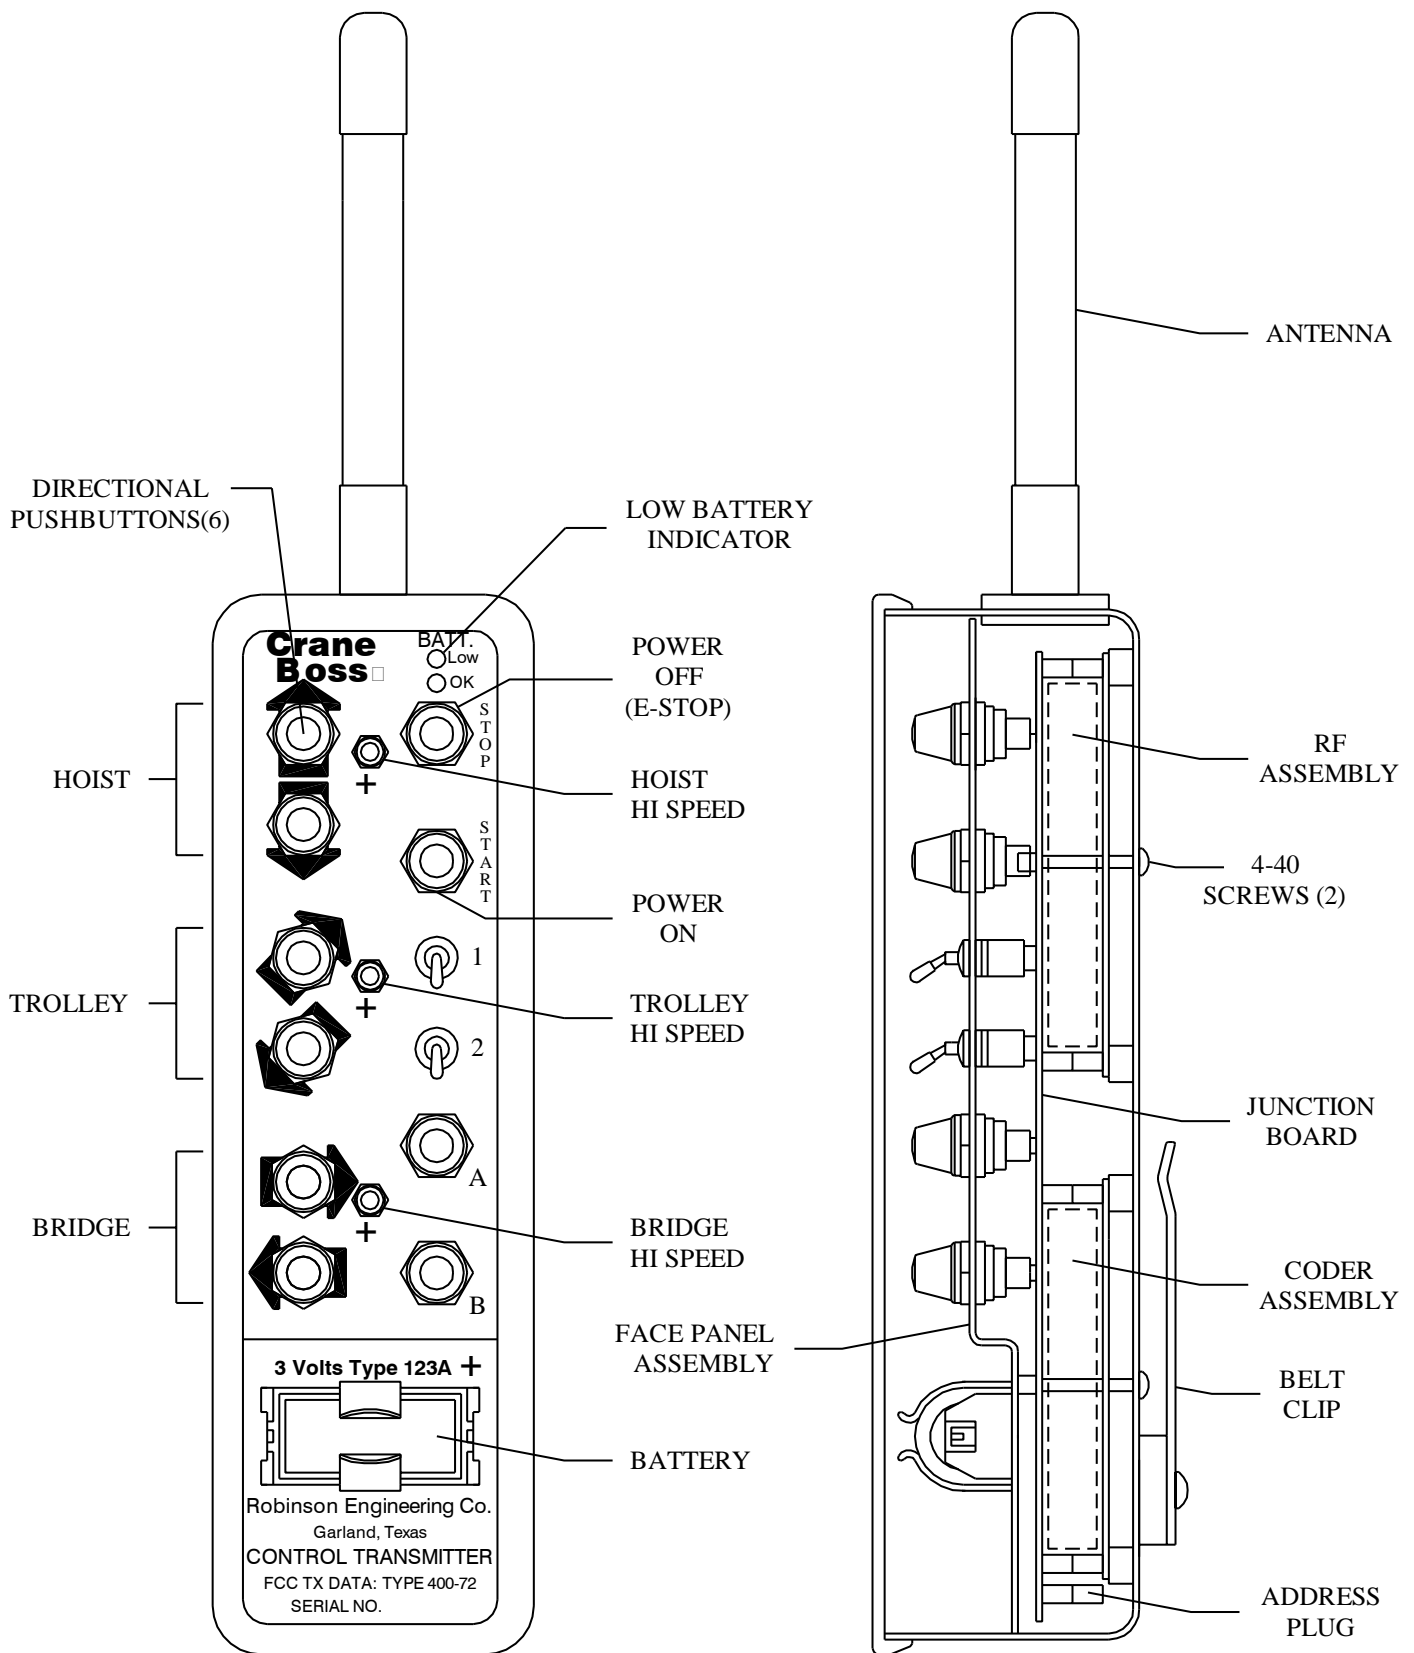

FIG. 5-1H HAND HELD, TRANSMITTER
5.2.2 Transmitter – (See Block Diagram, Transmitter, Fig. 3-1, and Transmitter Components, Fig. 5-1H).
Access to the interior of the transmitter is made by removing the two Phillips head screws retaining the stainless steel box and removing the face panel assembly. Internal arrangement of parts is shown by Figure 5-1H. Address Plugs may be accessed by unplugging from bottom of transmitter electronics assembly.